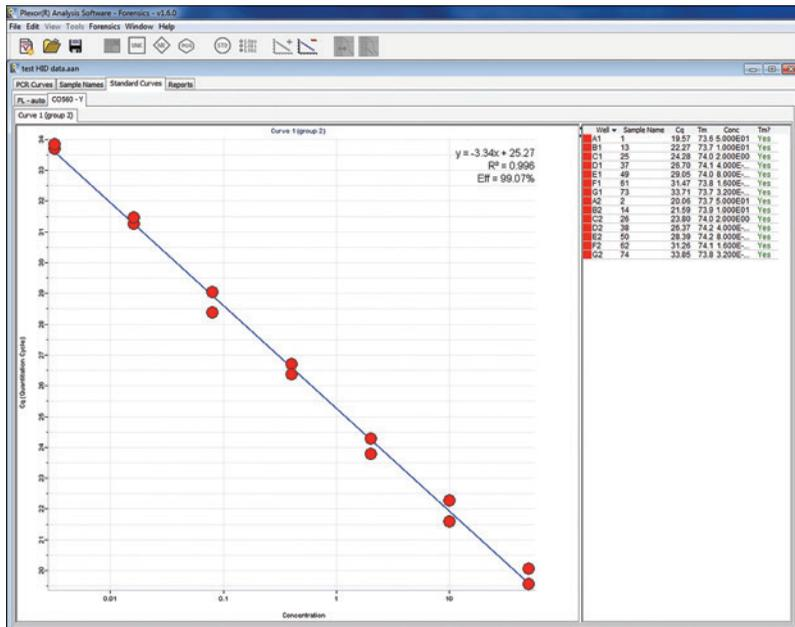

Figure 39. The Standard Curves tab.
3. Select the Standard Curves tab to view the standard curves (Figure 39). One subtab shows the autosomal (FL) standard curve, and a second subtab displays the Y (CO560) standard curve. The default display shows the log concentration on the X axis and quantification cycle on the Y axis.
- View DNA concentrations for all samples, including the unknown samples, in the table next to the standard curve graph (Figure 39). The calculated concentrations also can be viewed in the sample details report (Section 6.H).